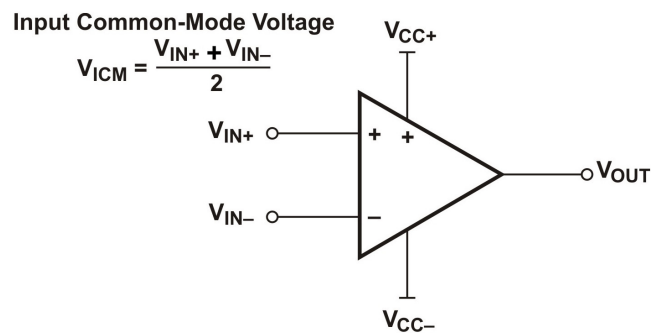

Figure 1: Input common-mode voltage for an op amp.
When speaking of op amp inputs, input common-mode voltage (V_{ICM}) is one of the first terms of which an engineer thinks, but may lead to some initial confusion. V_{ICM} describes a particular voltage level and is defined as the average voltage at the inverting and non-inverting input pins (**Figure 1**).
- Equation in Figure 1: Changed with “-” sign instead of “+” sign